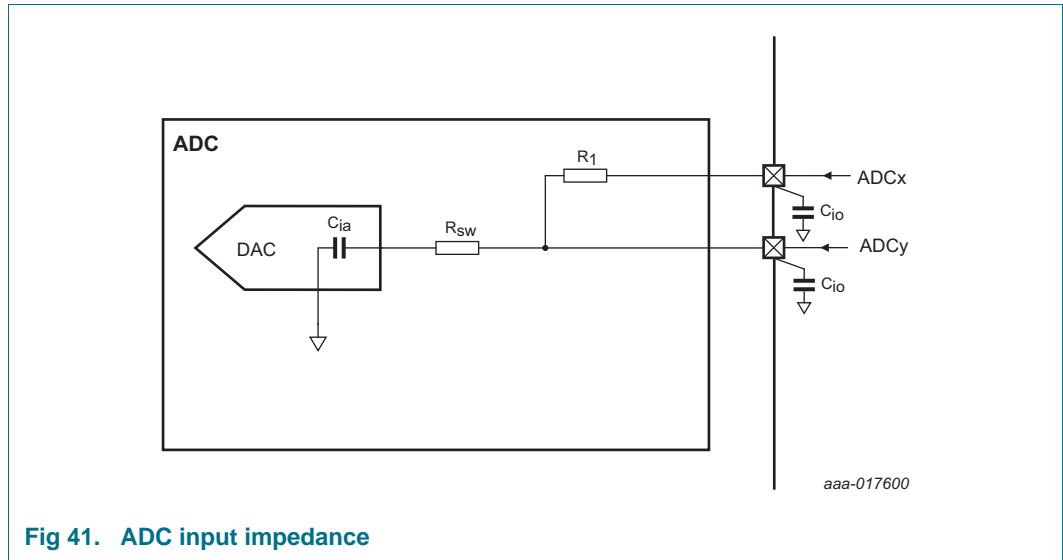

Fig 41. ADC input impedance
- [10] Input impedance  $Z_i$  is inversely proportional to the sampling frequency and the total input capacity including  $C_{ia}$  and  $C_{io}$ :  $Z_i \propto 1 / (f_s \times C_i)$ . See Table 21 for  $C_{io}$ . See Figure 41.
Figure 41 shows the ADC input impedance. In this figure: